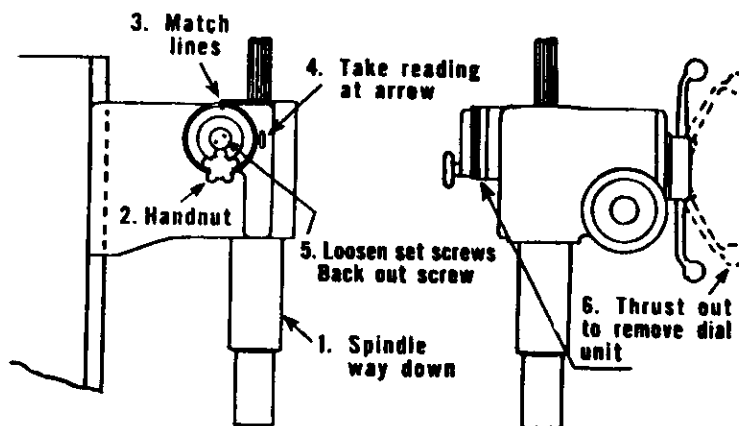

FIG. 8
(Dwg. 20-605) (Fig. 8)
7. To replace the feed trip dial, run the spindle down to the end of its travel (1). See that the scribed lines on the rim of the dials (3) are in line and then place the dial back on the stud so that the arrow points at the SAME FIGURE as it did when the dial was removed (4) (Refer to Paragraph XI) (Fig. 8).
12. After the desired setting is obtained, lock the lock screw (5) (Fig.8) against rotation by tightening the two small set screws in the head of the screw.